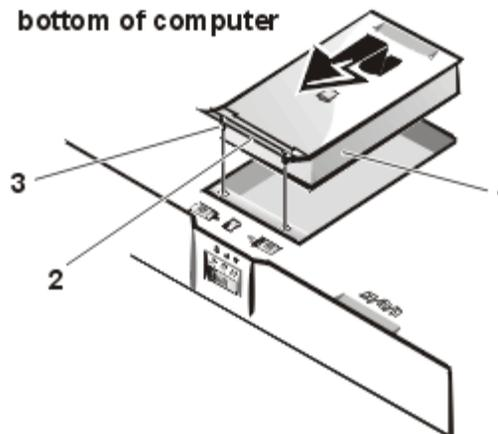

Figure 5. Hard-Disk Drive Assembly Removal
7. Remove the hard-disk drive assembly (see Figure 5).